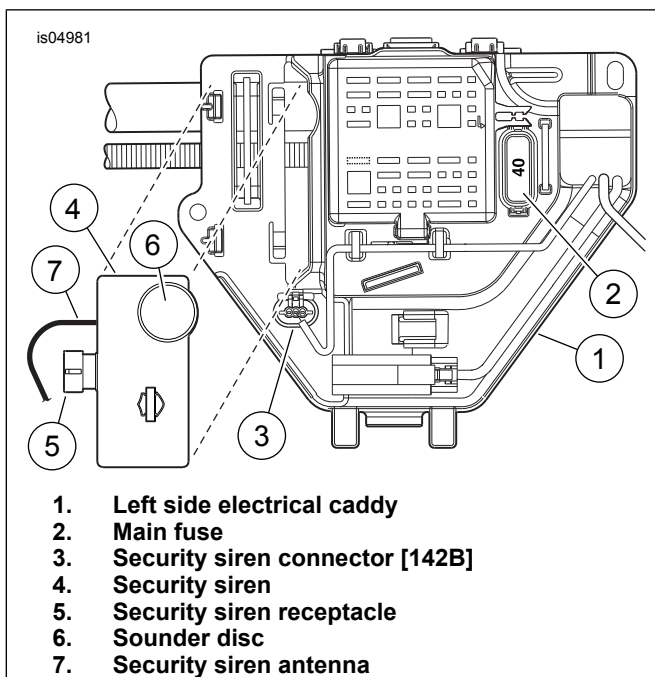

Figure 15. Siren Installation (2008-2013 FL Touring)
2. See Figure 15. Remove the security siren connector [142B] (3) from the retainer on the electrical caddy. Insert security siren connector [142B] into the security siren receptacle (5) until the connector latches securely.
3. Slide the siren into place on the left side of the electrical caddy so the sounder disc (6) faces out.